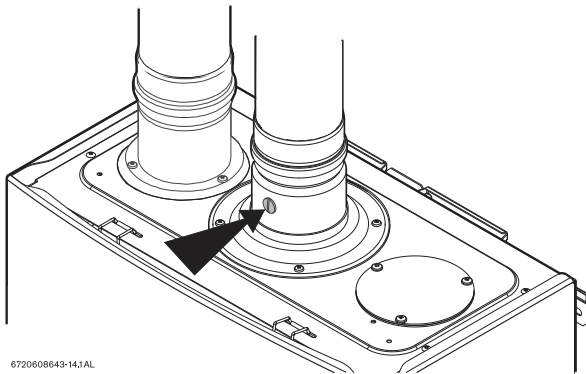

Fig. 68 Measuring port
- ▶ Remove brass flat head screw on the exhaust collar as seen in Fig. 68.